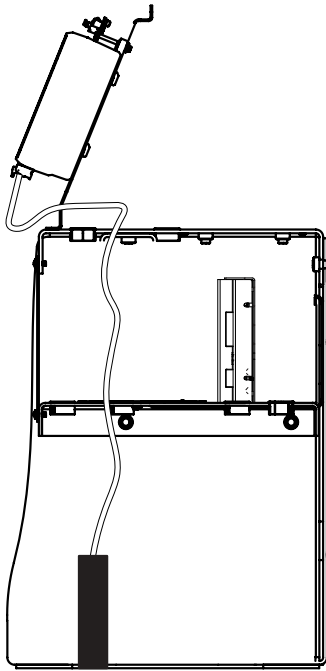

Figure 37.
3. Install the relay wires in the appropriate relay terminals: mechanical (Relay 1) or solid state (Relay 2 and 3) (Figure 37).